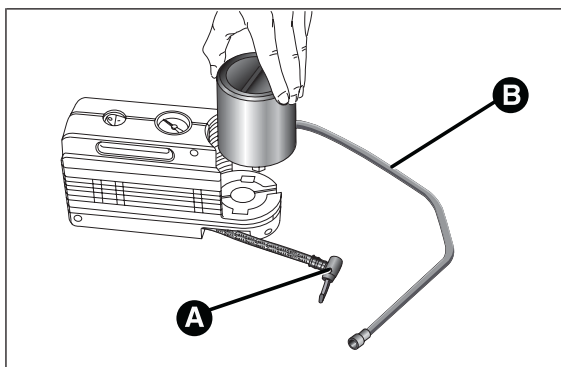

fig. 114
- ☐ disconnect connection A fig. 114;